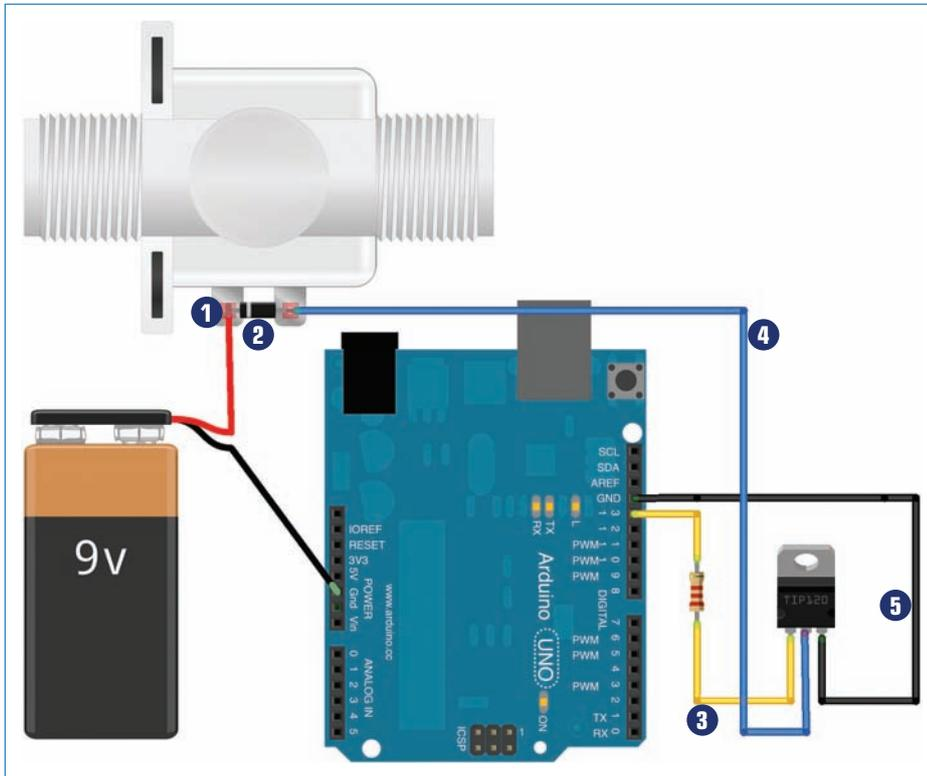

FIGURE 7.16 This diagram shows you how to wire up the valve.
Now it's time to wire up the electronics, which you do pretty much the same way that you wired up the pressurized reservoir described earlier in the chapter. See Figure 7.16.
1. Connect the positive lead of the 9V battery pack to the positive lead of the solenoid valve. This is the red wire in Figure 7.16.
3. Connect pin 13 of the Arduino to the leftmost lead of the Darlington transistor, with a 2.2K resistor in between. This is shown as a yellow wire in Figure 7.16.
4. Connect the negative terminal of the valve to the center pin of the Darlington transistor. This is the blue wire in Figure 7.16.
5. Connect the rightmost pin of the Darlington transistor to GND (the black wire in Figure 7.16).